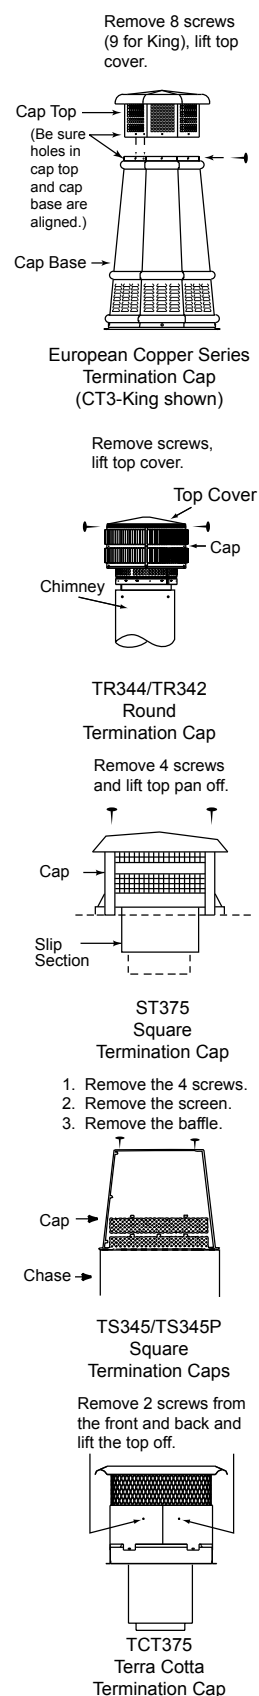

Figure 58.1 Chimney & Termination Cap Cleaning
1. Remove new brick set from box and lay out to diagram as shown in Figure 58.1.